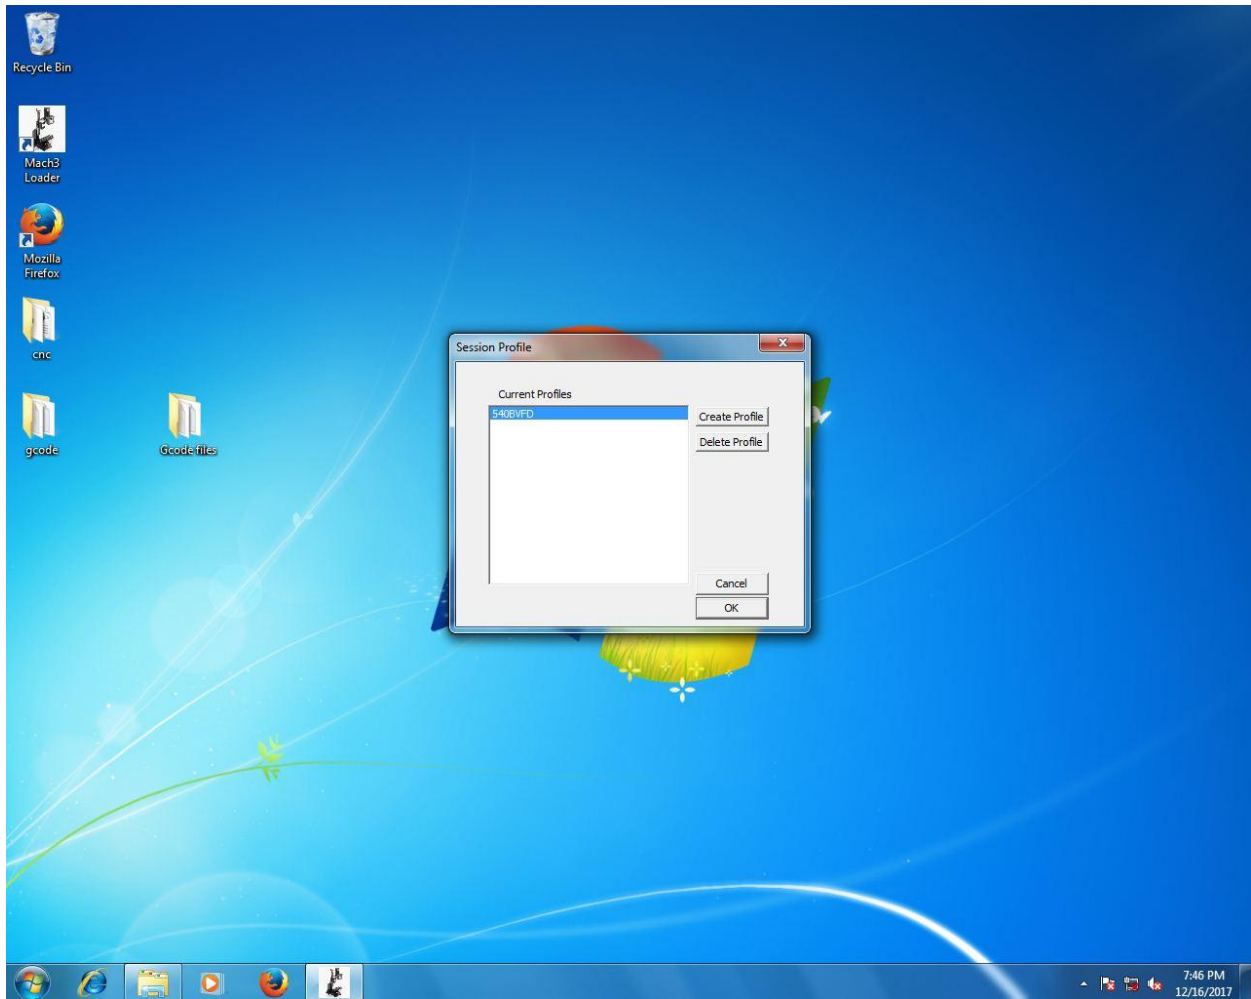

Figure 6: Mach3 Profile Manager
2. In the “Session Profile” box, select the “540BVFD” profile and click “ok”. Not doing so, or creating another profile will cause the router to not function correctly. Figure 6.